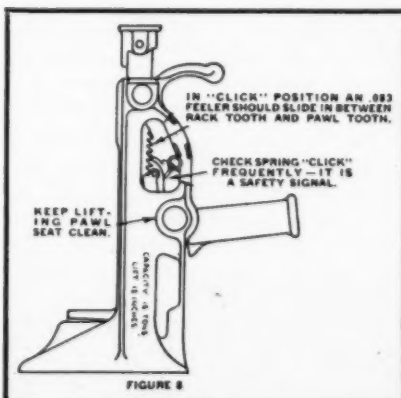

FIGURE 8
(1) Check overplay if socket stop is less than  $\frac{1}{2}$  in. from housing. If it has less than this, the clearance should be checked by inserting an 0.083 feeler in the space between rack tooth and pawl tooth with the socket in "click" position. If an 0.083 feeler will not enter, the jack is not safe to use. (See Fig. 8.)
(2) Check spring "click" frequently. It is important because it is a signal
that the pawl teeth are meshing properly with the rack teeth. (See Fig. 8)